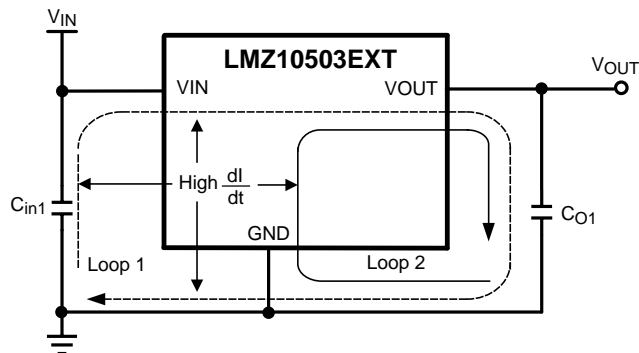

Figure 29. Critical Current Loops to Minimize
From an EMI reduction standpoint, it is imperative to minimize the high di/dt current paths. The high current that does not overlap contains high di/dt, see Figure 29. Therefore physically place input capacitor (C_{in1}) as close as possible to the LMZ10503EXT VIN pin and GND exposed pad to avoid observable high-frequency noise on the output pin. This will minimize the high di/dt area and reduce radiated EMI. Additionally, grounding for both the input and output capacitor should consist of a localized top side plane that connects to the GND exposed pad (EP).